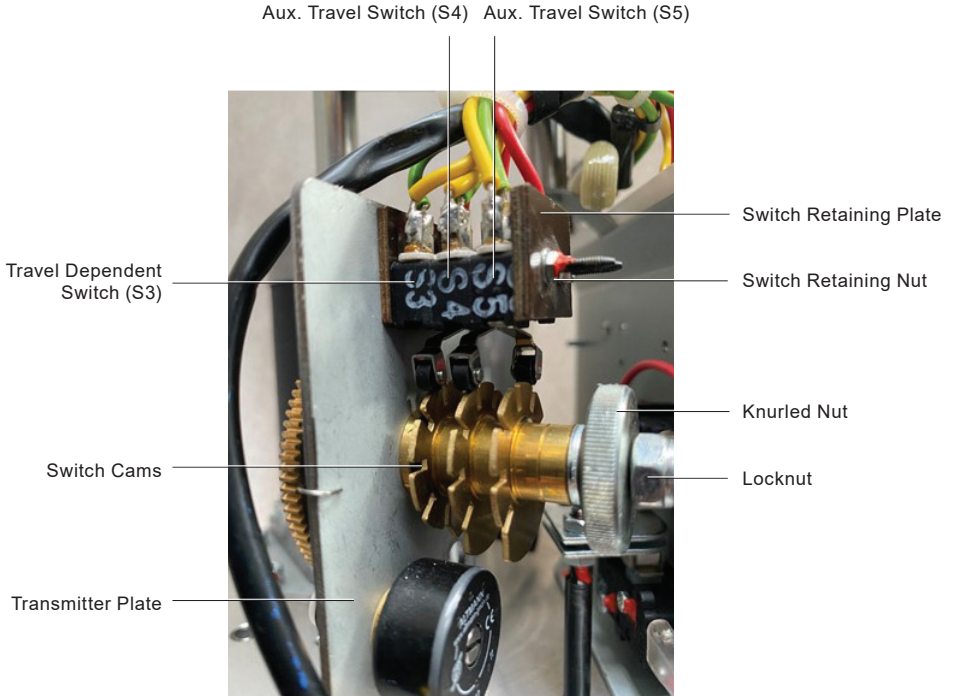

Fig. 9 Auxiliary Travel Switch (WE) Arrangement (8 kN+)
- Refer to Fig. 9 for product orientation